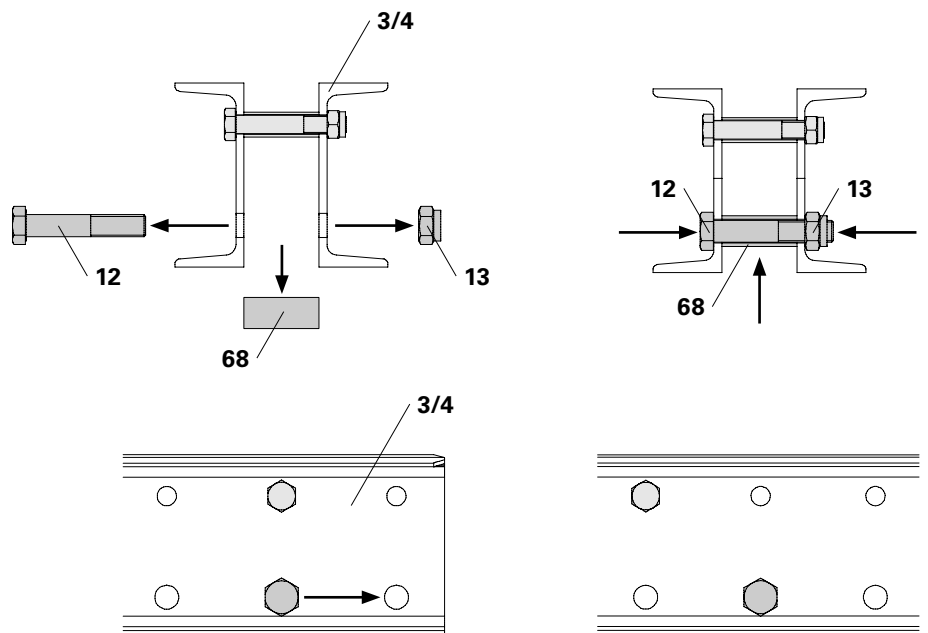

Fig. B2.10
1. Release the Nut ISO7042 M24-8 (13).
2. Remove Bolt ISO 4014 M24 x 130-8.8 (12).
3. Remove tube sleeve of the Spacer M24-82 (68).
5. Insert Bolt ISO 4014 M24 x 130-8.8 (12) through the tube sleeve of the Spacer M24-82 (68).
6. Turn Nut ISO 7042 M24-8 (13) on the Bolt ISO 4014 M20 x 120-8.8 (14) and tighten. (Fig. B2.10)